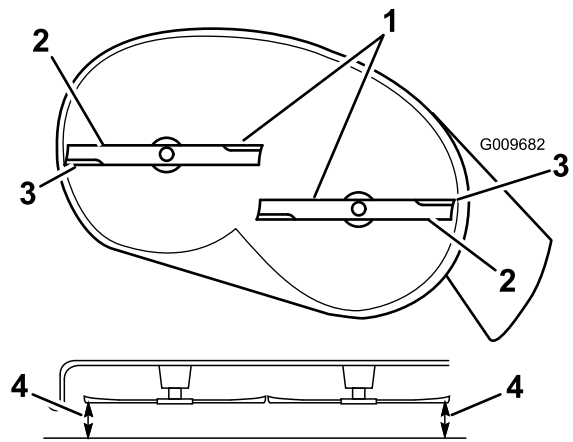

Figure 52
4. Carefully rotate the blades so that they are all side to side (Figure 52).